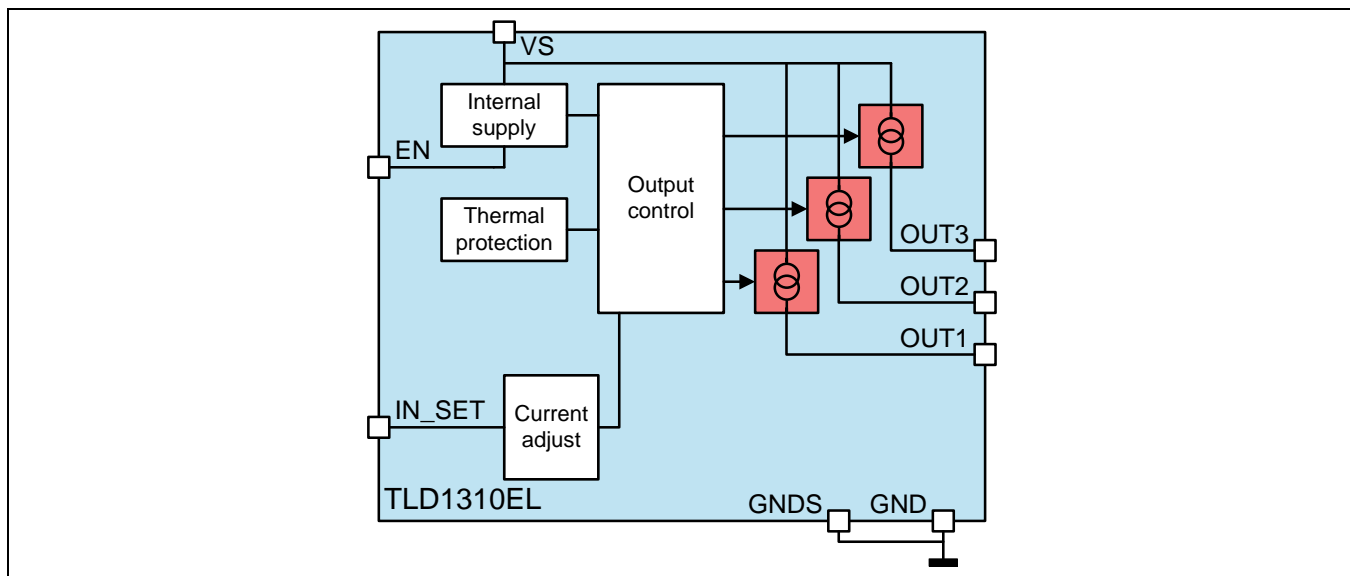

Figure 2 Block Diagram of LITIX™ Basic device (TLD1310EL)
Figure 2 shows the block diagram of the LITIX™ Basic family member TLD1310EL. This device has 1 input (IN_SET), 3 outputs (OUT1, OUT2 and OUT3), enable input (EN), supply (VS) and ground (GND) pins. The exposed pad of the package should also be connected to ground in the application.